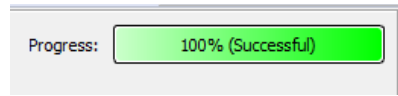

Fig. 19: Progress Bar after programming the device
- 7) Click on Start. If the Progress Bar is similar to Fig. 19, it means that your device is programmed successfully.